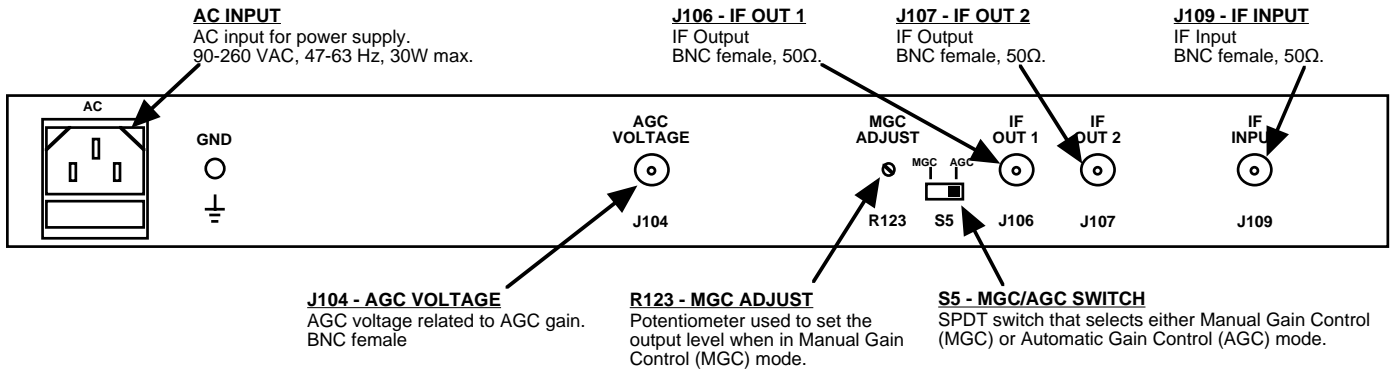
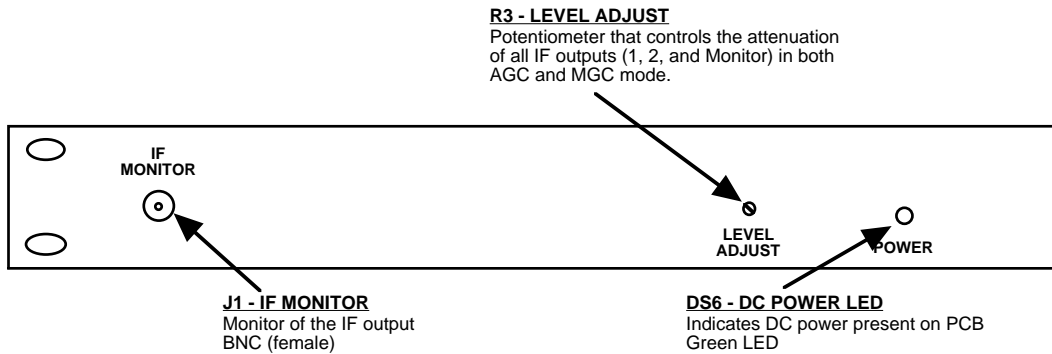

FIGURE 2.2 1200-08 Rear Panel I/Os and Control
FIGURE 2.3 1200-08 Front Panel Controls and Indicators
Figure 2.2 shows the input, output, and control connectors on the rear panel.
Figure 2.3 shows the front panel outputs, controls and indicators.
2. Connect 90 - 260 VAC, 47 - 63 Hz to AC IN on the back panel (Figure 2.2).
3. Be sure the POWER LED, DS6, is on (Figure 2.3).
4. Connect a -35 to 0 dBm, 50-200 MHz signal to IF INPUT, J109 (Figure 2.2).
5. Select Manual Gain Control (MGC) or Automatic Gain Control using switch, S5 (Figure 2.2).
6. Connect IF OUT 1 and IF OUT 2 (Figure 2.2) to the desired equipment, and check for proper level using IF MONITOR on the front panel (Figure 2.3).
7. If in MGC mode adjust rear panel potentiometer R123 for the desired gain (Figure 2.2).
8. Adjust output to desired level using front panel attenuator pot, R3 (Figure 2.3). Clockwise rotation provides increased output level.